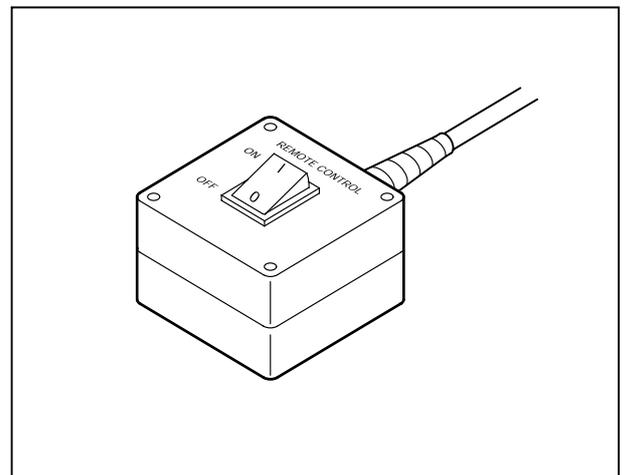

Fig. 5-1 **REMOTE CONTROL** switch
- Turn the **REMOTE CONTROL** switch to "ON" position (see Fig. 5-1).